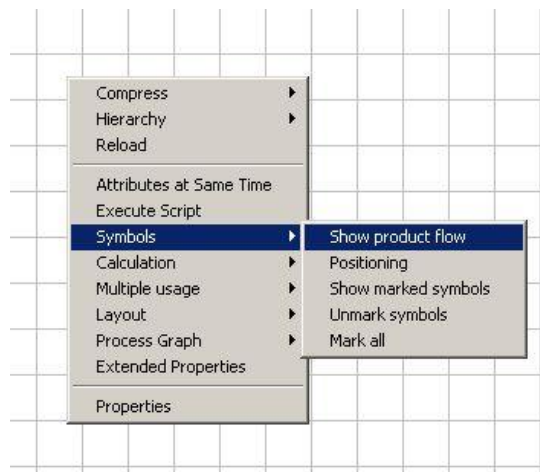

Figure 57: Context Menu – Show Product Flow
- 2) Select **Unmark symbols**. Please refer to the Figure 57.